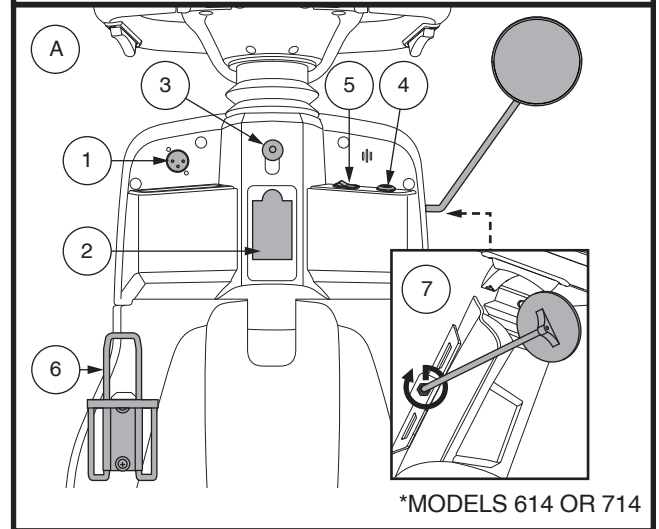

Figure 7. Lower Tiller Components
The off-board charger power cord plugs into this port during battery charging. The off-board charger port will be located on the tiller. See **figure 7**.
- Insert the key into the key switch and turn it clockwise to power up (turn on) your scooter. See **figure 7**.
This switch dictates which throttle control lever (left or right) will function. See **figure 7**.